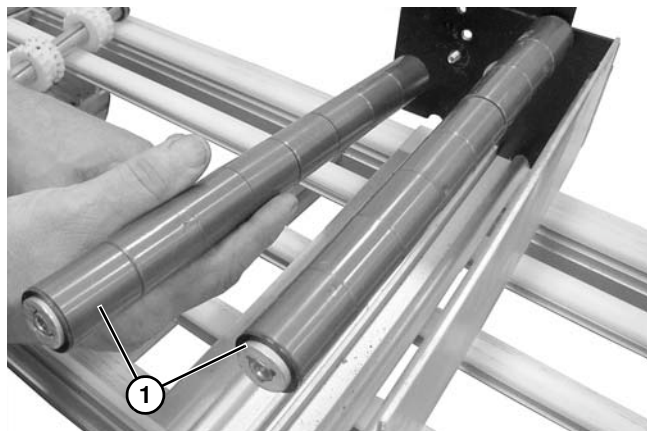

Figure 59
11. Remove shafts (**Figure 59, item 1**), replace if worn.